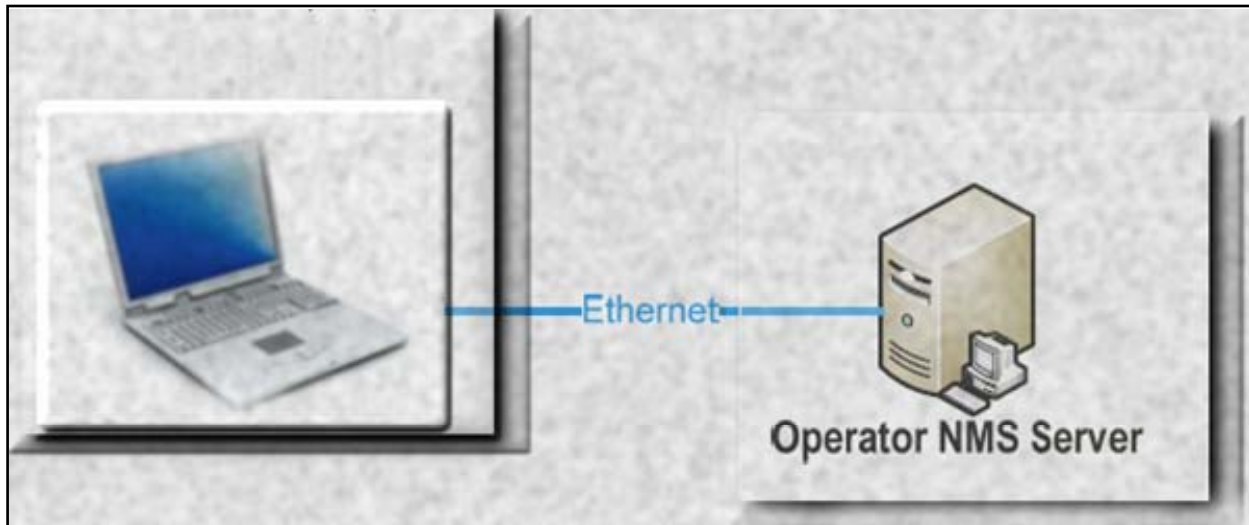

Figure 4-28. Connecting the Monitoring Device to the Server
1. Connect the laptop, PC or terminal to the server through the hub using a crossover cable, **Figure 4-28**. The monitoring device may also be plugged directly into the server with a crossover cable.